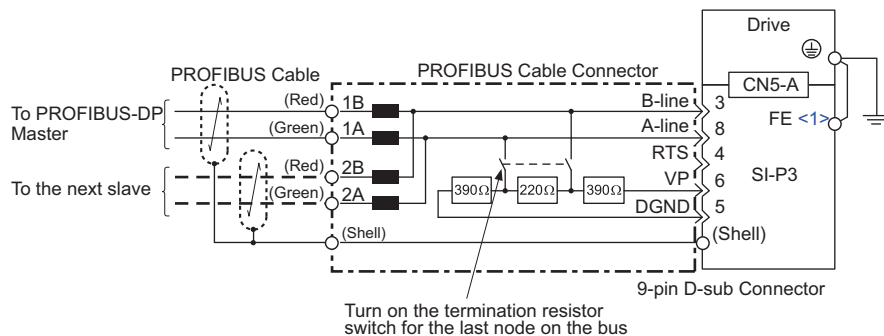
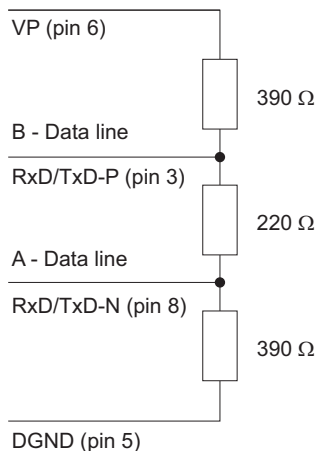

Figure 19 Option Connection Diagram
Figure 21 Cable Termination of the Option Cable to EN50170
Install PROFIBUS-DP communications cables apart from main-circuit wiring and other electrical and power lines. Ensure the cable end is firmly connected (see Figure 19). Refer to Communication Cable Specifications on page 33 for details.
6. Select the proper PROFIBUS-DP dedicated communication cable according to Table 7 and Table 8. Firmly connect the PROFIBUS-DP communication cable to option communication connector CN4. Install PROFIBUS-DP communications cables apart from main-circuit wiring and other electrical and power lines. Ensure the cable end is firmly connected (see Figure 19). Refer to Communication Cable Specifications on page 33 for details.
Termination resistors without inductors as shown in *Figure 21* can only be used for baud rates below 1.5 Mbps. Baud rates 1.5 Mbps and higher require termination with resistors and inductors as shown in *Figure 19*.